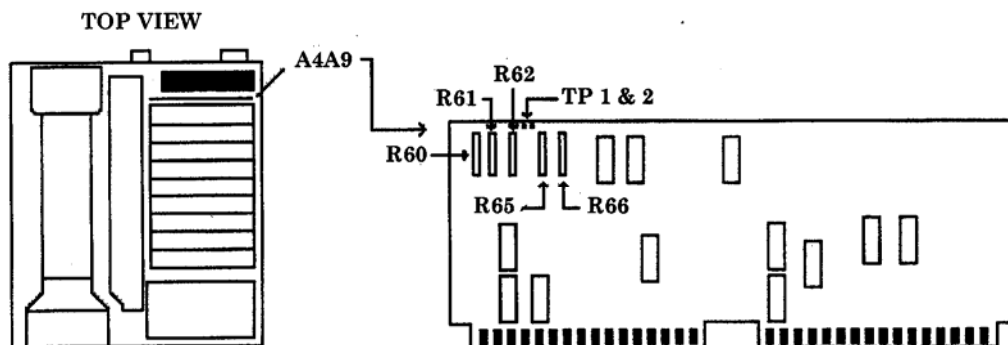

Figure 8. A4A9 board.
- (3) Adjust **DATA** knob to position trace at (or just below) reference level (top) graticule line.
- (4) Press TI keys as listed in (a) through (d) below:
- (5) Using TI **DATA** knob adjust marker down the positive going side of the displayed signal to the -3 dB point.
- (6) Adjust A4A9R60 (fig. 8) for a **MKR Δ** indication of 1.5 MHz while maintaining marker at the -3 dB point using TI **DATA** knob (R).
- (11) Adjust **DATA** knob to position trace at (or just below) reference level (top) graticule line.
- (12) Press TI keys as listed in (a) through (d) below:
- (13) Using TI **DATA** knob adjust marker down the positive going side of the displayed signal to the -3 dB point.
- (14) Adjust A4A9R61 (fig. 8) for a **MKR Δ** indication of 500 kHz while maintaining marker at the -3 dB point using TI **DATA** knob (R).
- (15) Press TI **MARKER Δ** key.
- (16) Using TI **DATA** knob, adjust marker to the -3 dB point on the negative going side of the displayed signal. There are now two markers; one on each side of the signal at the -3 dB points.
- (17) TI **MKR Δ** indication should be  $1.00 \pm 0.10$  MHz.
- (18) Press TI keys as listed in (a) through (i) below:
- (19) Adjust **DATA** knob to position trace at (or just below) reference level (top) graticule line.
(20) Press TI keys as listed in (a) through (d) below:
(21) Adjust TI **DATA** knob to place marker down the positive going side of the displayed signal to the -3 dB point.
(22) Adjust A4A9R62 (fig. 8) for a **MKR Δ** indication of 150 kHz while maintaining marker at the -3 dB point using TI **DATA** knob (R).
(23) Press TI **MARKER Δ** key.
(24) Adjust TI **DATA** knob to set marker to the -3 dB point on the negative going side of the displayed signal. There are now two markers; one on each side of the signal at the -3 dB points.
(25) TI **MKR Δ** indication should be  $300 \pm 30.0$  kHz.
(26) Press TI keys as listed in (a) through (i) below:
(27) Adjust **DATA** knob to position trace at (or just below) reference level (top) graticule line.
(28) Press TI keys as listed in (a) through (d) below:
(29) Adjust TI **DATA** knob to place marker down the positive going side of the displayed signal to the -3 dB point.
(30) Adjust A4A9R65 (fig. 8) for a **MKR Δ** indication of 5 kHz while maintaining marker at the -3 dB point using TI **DATA** knob (R).
(31) Press TI **MARKER Δ** key.
(32) Adjust TI **DATA** knob to set marker to the -3 dB point on the negative going side of the displayed signal. There are now two markers; one on each side of the signal at the -3 dB points.
- (33) TI **MKR Δ** indication should be  $10 \pm 1.0$  kHz.
- (34) Press TI keys as listed in (a) through (i) below:
(35) Adjust **DATA** knob to position trace at (or just below) reference level (top) graticule line.
- (36) Press TI keys as listed in (a) through (d) below: